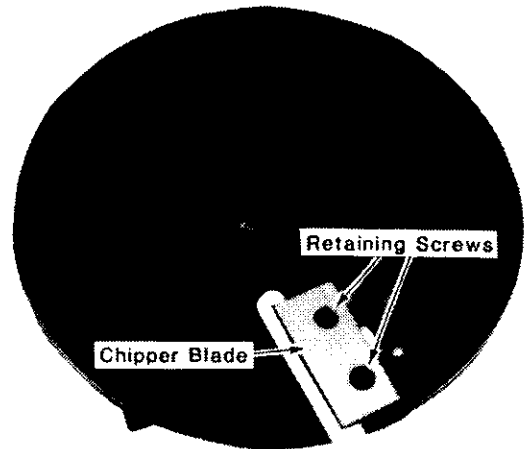

Fig. 9
7. Install chipper blade on rotor, using new retaining screws, lockwashers and nuts. Fig. 9. Tighten nuts to 80 in. lbs. or 6-1/2 ft lbs. torque with a torque wrench.